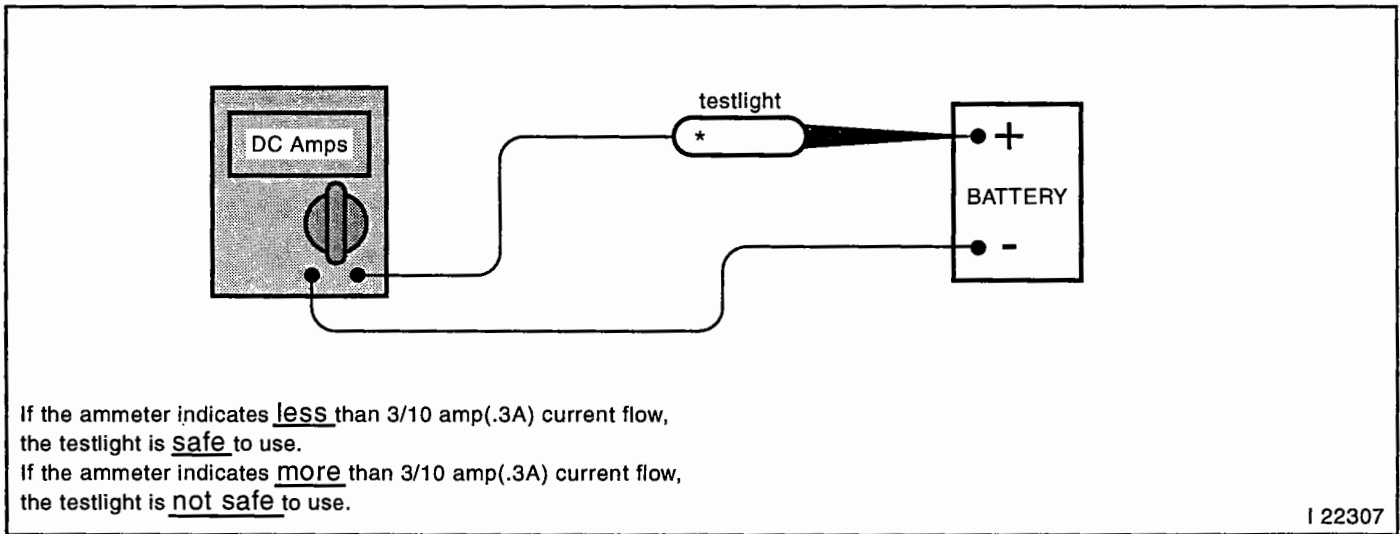

Figure 1-4 - Test Light Amperage Draw Test
12. When a test light is specified, a "low-power" test light must be used. Do not use a high-wattage test light. While a particular brand of test light is not suggested, a simple test on any test light will ensure it to be safe for system circuit testing (Figure 1-4). Connect an accurate ammeter (such as the high-impedance digital multimeter) in series with the test light being tested, and power the test light ammeter circuit with the vehicle battery.